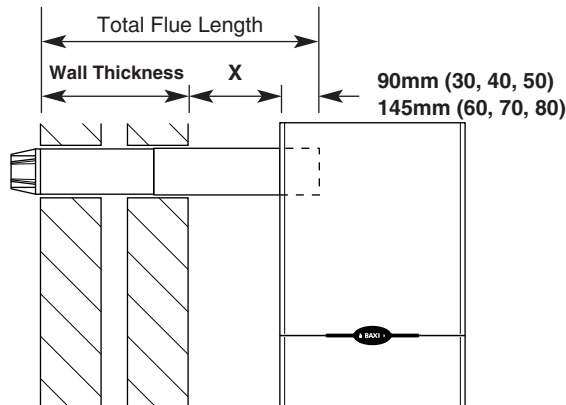

Fig. 47
3. To make up the total flue length, add 90mm (30, 40, 50 models) or 145mm (60, 70, 80 models) to the Wall Thickness + X dimension (Fig. 47):